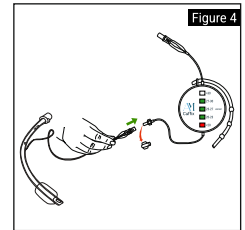

Figure 4
6. Remove the blocking cap from the extension and immediately connect Cuffix to the endotracheal tube's pilot balloon using the pilot balloon connection [Figure 4].